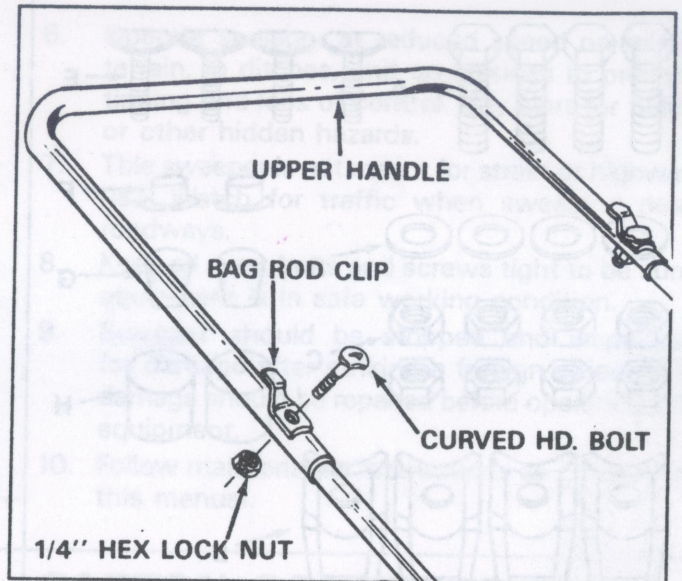

FIGURE 3
2. Assemble the Upper Handle Tube over the Handle Leg Stand Tubes. See figure 3. Align the holes in handle and assemble the Bag Rod Clips to the handle as shown and fasten with curved head bolts down through the top of clip and handle secure with hex lock nuts.